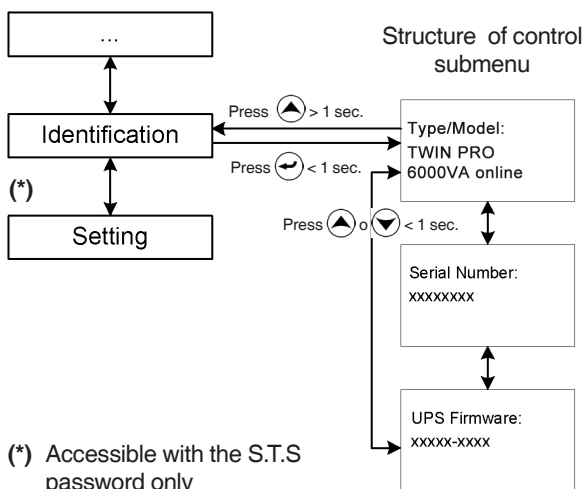

Fig. 36. Identification submenu screens.
- When pressing over the key for less than 1 sec. from "Identification" submenu, it is accessed to the identification structure (see figure 36). This submenu shows the serial number of the UPS, firmware version and model of the equipment.